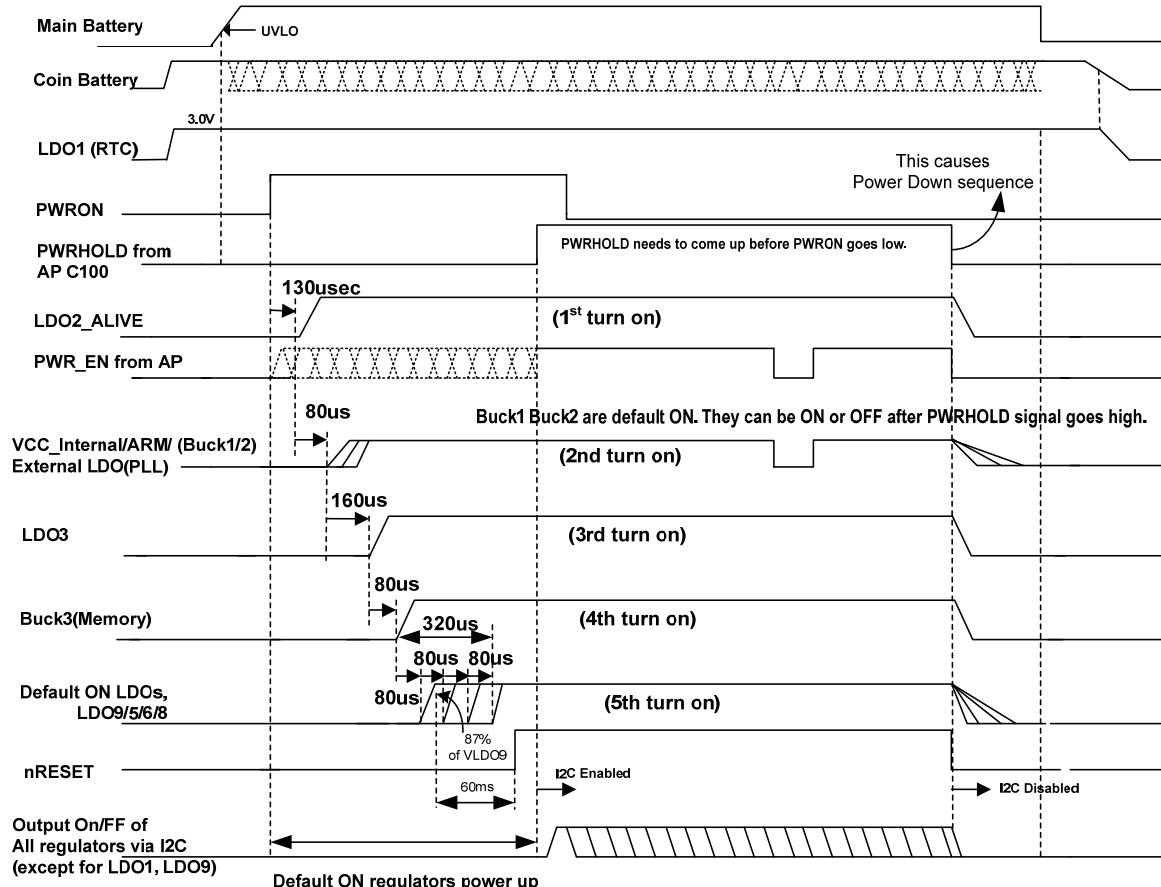
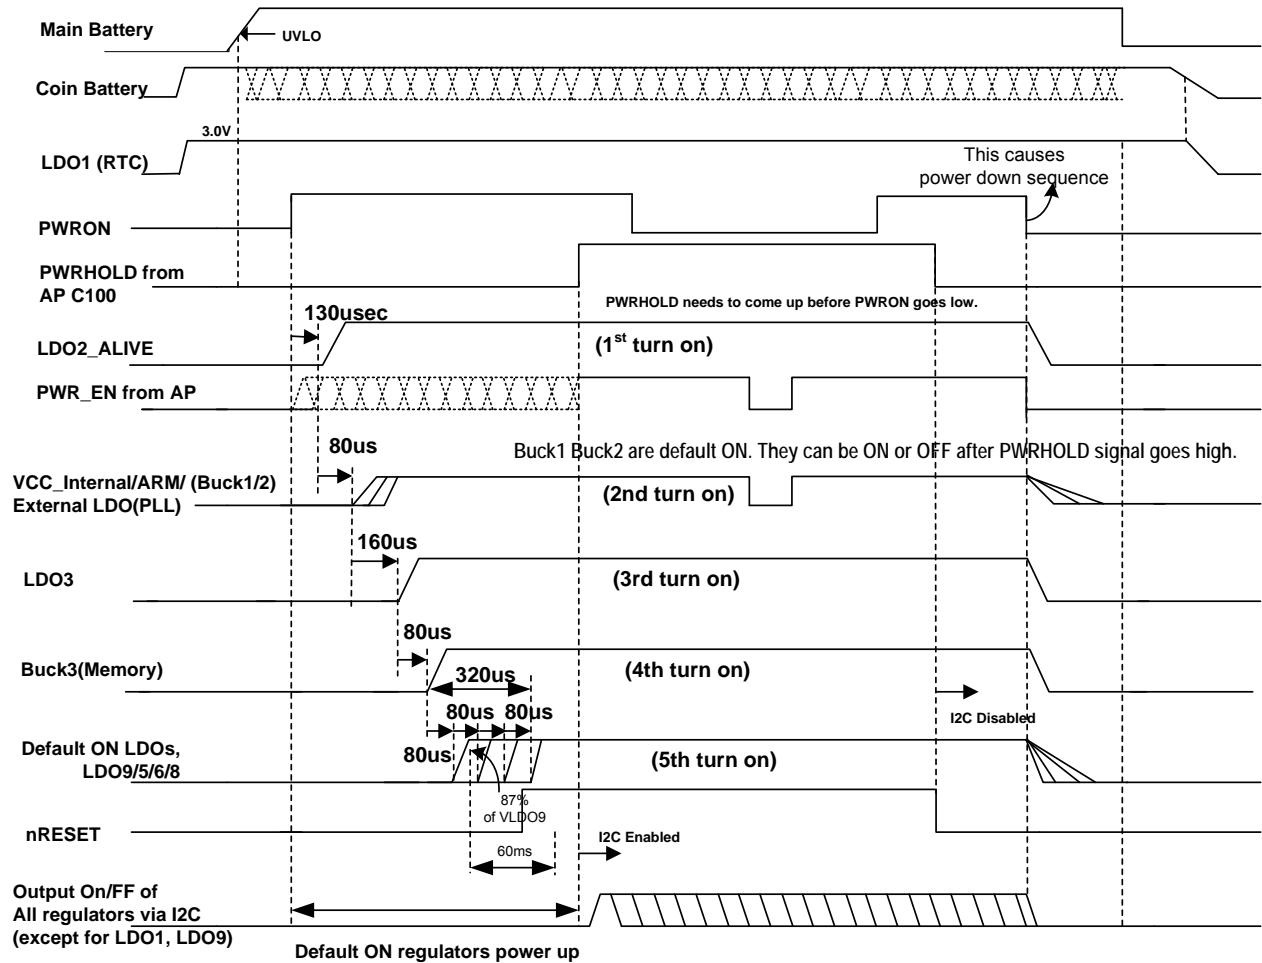

Figure 5. Power up/down sequence
Figure 6. Power up/down sequence
Note that the Samsung S5PC100 processor controls PWREN/SET1/SET2/SET3/PWRHOLD. Buck1/2 and LDO2 are logically connected to ensure Buck1/2 are powered up after LDO2. LDO2 can be enabled /disabled by only I2C during normal operation. See Figure 5 and Figure 6.
After I2C is enabled, all regulators can be enabled or disabled via I2C. In the figure6, LDO4/7 are turned on by I2C and can be turned off individually.
- Falling threshold level on PWRHOLD & Low level of PWRON switch (See Figure 5)
- Falling threshold level on PWRON & Low level of PWRHOLD (See Figure 6)
See Figure 5 and 6